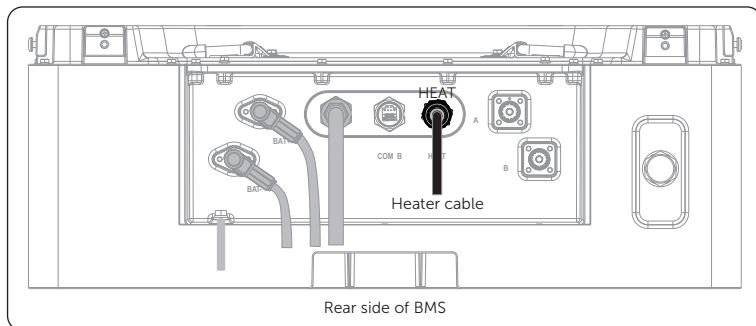

Figure 7-4-17 Diagram after installation of heater cable
Step 11: Take out the cable guard cover (Part G2). Firstly, pull cables through the rubber seal cable entry on the cover, see "Figure 7-4-17 Wiring diagram". Secondly, insert the cover into the holes on the series box, and then insert and tighten the M4*10 Phillips screw (Part C2) to secure it. (M4: 2 pieces) (Torque for M4: 0.9-1.1 N·m)